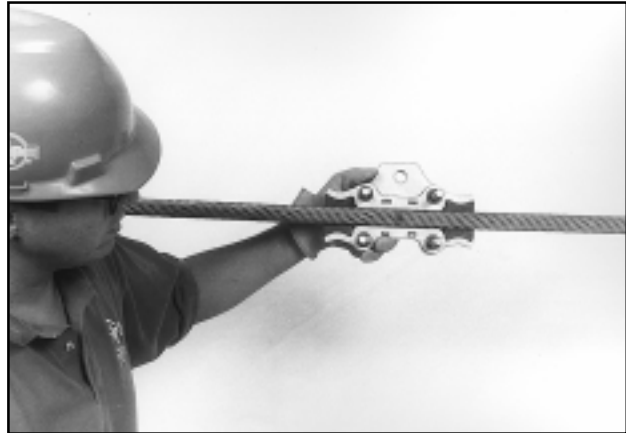

FIGURE 5 - ALIGN CUSHION CLAMP HALF WITH CENTER LINE
3.01 Align the center of the Cushion Clamp half with the U-bolts alongside the center line of the applied Structural Reinforcing Rods. (Figure 5)